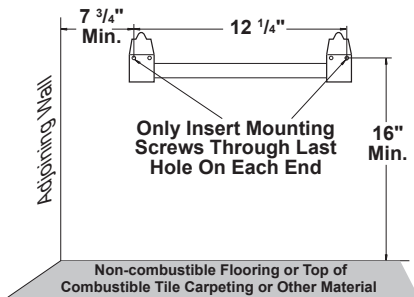

Figure 6 - Mounting Bracket Clearances
2. Mark screw locations on wall (see Figure 6). *Note: Mark only last hole on each end of mounting bracket. Insert mounting screws through these holes only.*